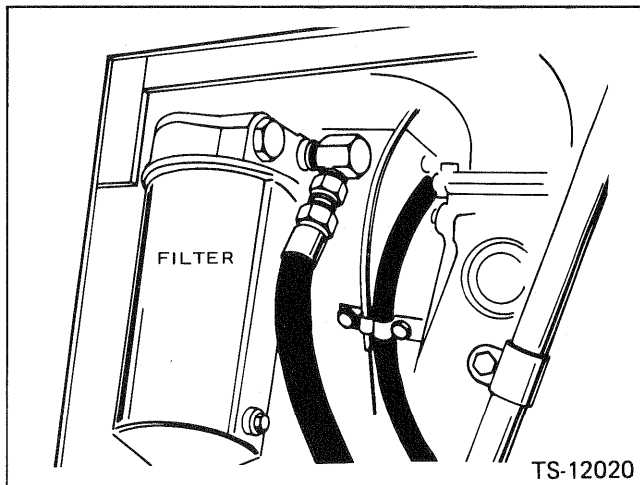

Fig. 9-2 Filter – Transmission and Torque Converter (G.M.)
5. Replace the element in the transmission and torque converter filter assembly. (See Fig. 9-2 & 9-3 for the position of the filter assembly.) thoroughly clean the filter case and base casting before installing a new element. Use a new gasket in the base casting and tighten the center bolt to 30 ft. lbs. torque.